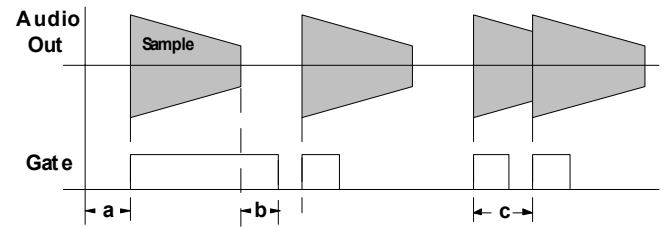
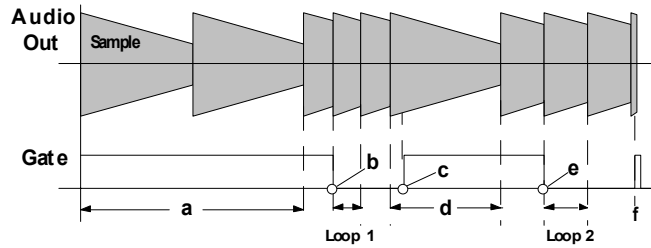

fig. 1: normal play mode
fig. 2: Loop play mode
The module is waiting for gate = high; LED ③ is off (see fig. 1 - a).
When the gate level changes from low to high **Playback** is triggered and the audio signal in the memory bank is played back. LED ③ is now on. Playback starts at address 0 and continues until the last address (65 535) is reached and LED ③ turns off. Even if the gate goes low before the end of the sampling memory is reached the playback continues (see fig. 1 - b).
Only if the gate goes low and high again before the end is reached the sample is **retriggered**, i.e. the playback starts again at address 0 (see fig. 1 - c).
As long as the gate level is high the sample is played continuously. When the end of the sample is reached, playback starts again at the beginning (see fig. 2 - a). LED ③ is on.
As soon as the **gate goes low** the present position within the sample is defined as **loop end** (see fig. 2 - b). Playback starts at the beginning (address 0) and runs continuously from the beginning to the loop end
as long as the gate level remains low (see fig. 2: loop 1).
If gate turns high (see fig. 1 - c) the loop end is cancelled and the sample playback uses the full range again (i.e. loop end = end of sample memory, see fig. 2 - d).
If the gate goes low again a new loop end is set (see fig. 2 - e, loop 2).
To **exit** loop play mode a short **trigger pulse** (max. duration 100 ms) is required (see fig. 2 -f).